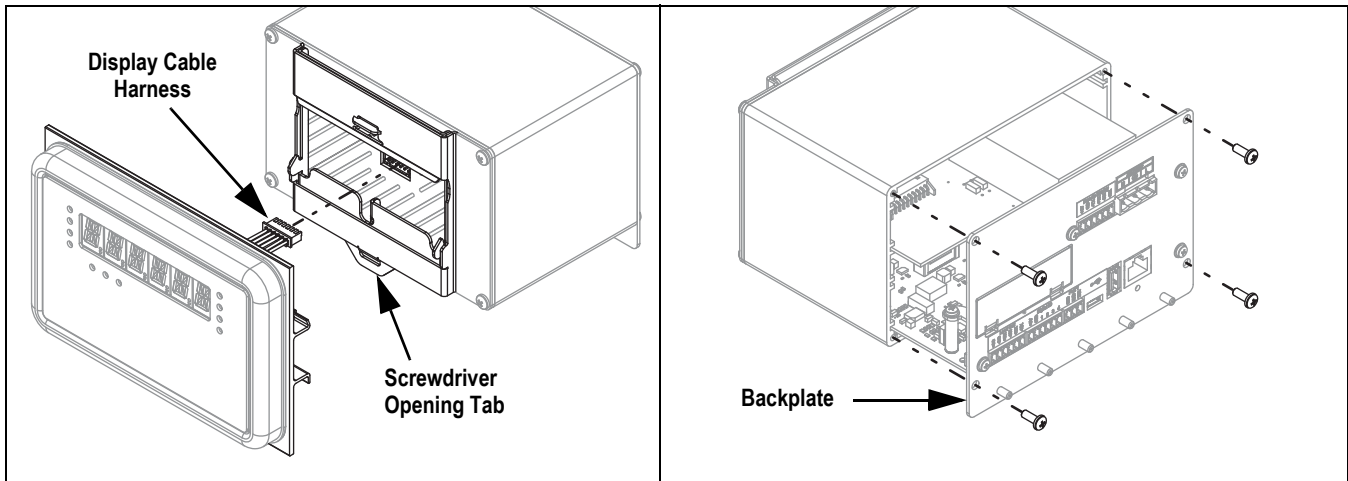

Figure 2. Front Panel and Backplate Removal
2. Unhook the controller assembly from the front panel DIN rail by inserting a flat blade screwdriver into the bottom tab and sliding the mounting plate down (Figure 2). Due to the angle of the hook portion of the DIN bracket, it may be a little tight as it is disconnected.